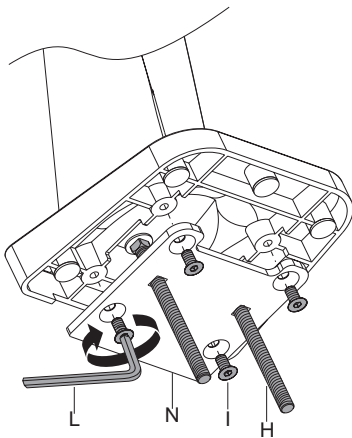

Figure 5
1. Insert the Grommet Bolts (H) into the Grommet Plate (N), see Figure 5
2. Attach the Grommet Plate (N) to the Extension Arm (A), secure them using Bolt (I) with Allen Key (L) turning clockwise until tight, see Figure 5.